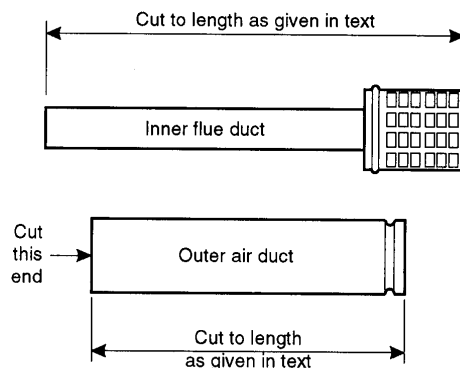

Fig. 10
3.5 FIT THE STANDARD HORIZONTAL FLUE (See Figs. 10 and 11)
- 3 Mark the outer air duct to match the length given above, measure from the swaged 'outer' end of the tube. See Fig. 10.
- 4 Mark the inner flue duct to match the length given above, measure from the outermost edge of the terminal. See Fig. 10.
- 6 Fit the outer sealing collar over the swaged end of the outer duct, ensuring it locates in the swage. See Fig. 10.